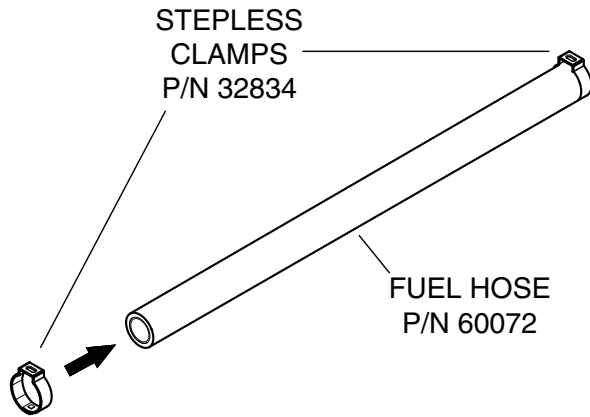

Figure 9. Attach Stepless Clamps
5. Attach stepless clamp (P/N 32834) to each end of new fuel hose (P/N 60072). Reference Figure 9.